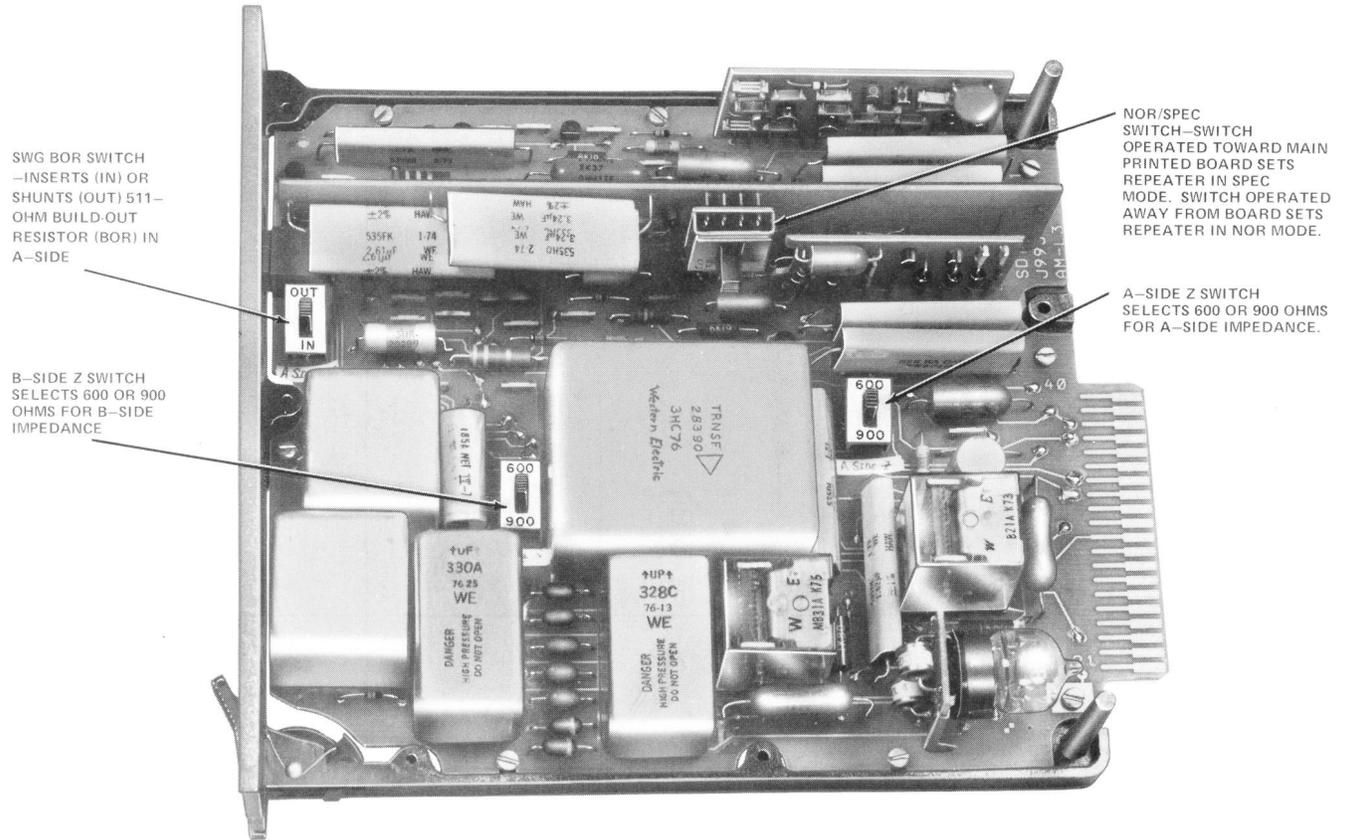

Fig. 1—Loop-Start Only/2-Wire Transmission Unit, J99343GA (MTC 2100AAA)
2.01 A photograph of the LSO/2-Wire is shown in Fig. 1. The unit is made up of circuit components mounted on a printed circuit board. The circuit board, which has a built-in connector along one edge, is attached to a die-cast frame. The assembly is approximately 1-11/16" (4.3 cm) wide by 7-7/8" (20 cm) high by 9" (23 cm) deep.